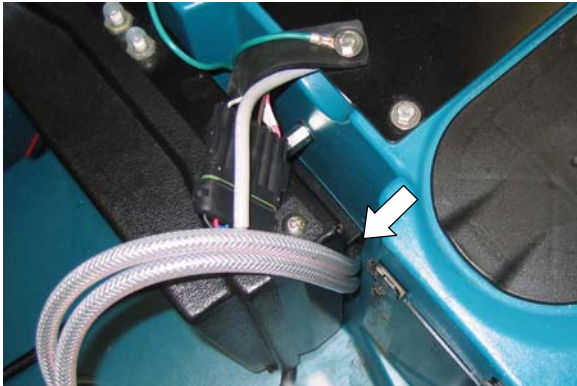

Fig. 16
4. Route the two *ec-H2O* module hoses behind the control board box and down towards the scrub head area (Figure 16).